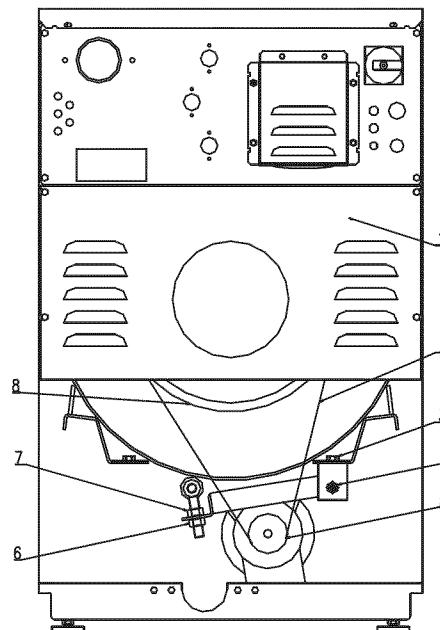

Fig.5.2.4. Regulation of belt
1. Dismantle the rear panel, fig.5.2.4., pos. 1.
2. Take off the belts, (pos.2.) by pulling the belt and turning the drum pulley (pos.5).
3. Put a new belt (pos.2) of identical type on pulleys (pos.5 and 8). The re-assembly of the belts is done in the reverse order as the disassembly.